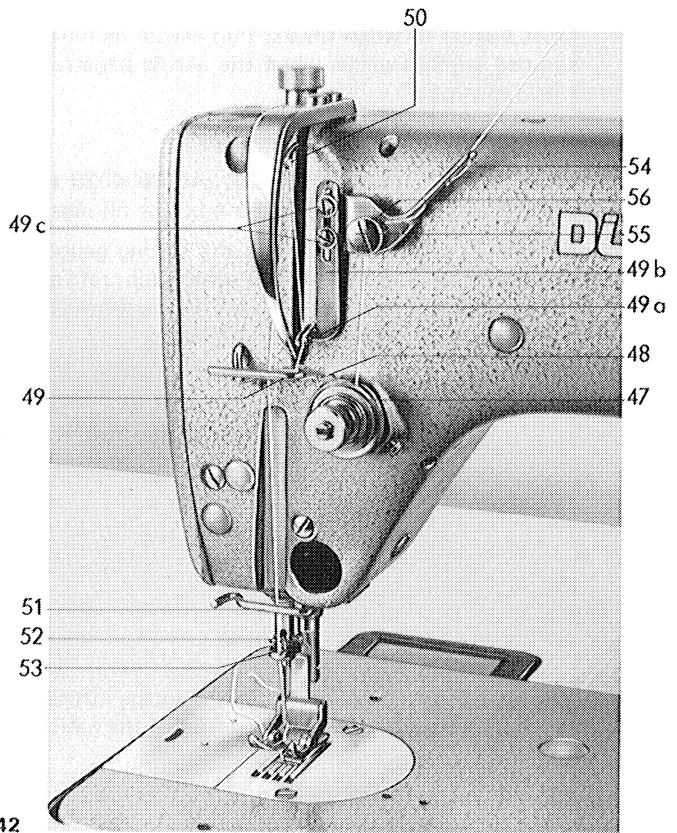

Fig. 42
41. Threading the needle (fig. 42)
Adjusting the thread length regulator (fig. 42)